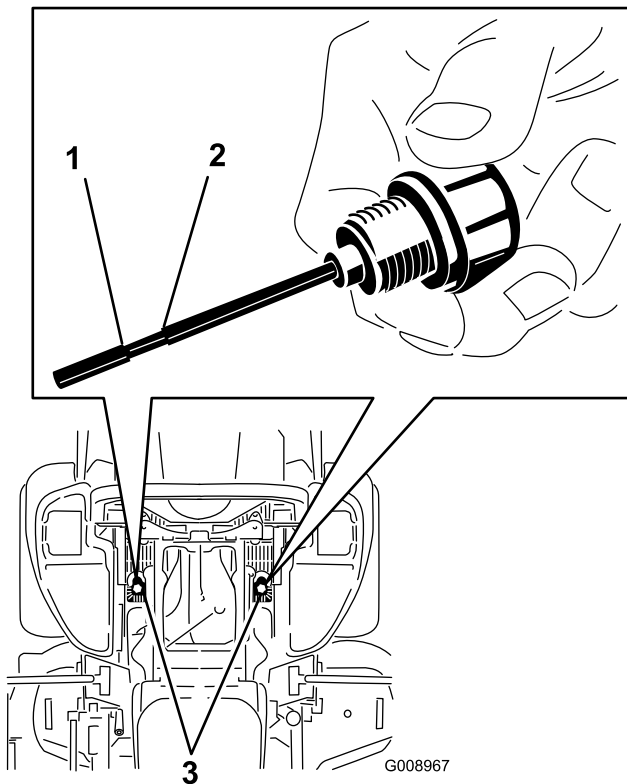

Figure 82
6. Clean the area around the dipsticks of hydraulic system reservoirs (Figure 82).
7. Remove one dipstick from the hydraulic reservoir (Figure 82).
9. Remove the dipstick and look at the metal end (Figure 82). The level needs to be within knurled section. If oil level is low, slowly pour only enough oil into the hydraulic reservoir to raise the level to the knurled section.